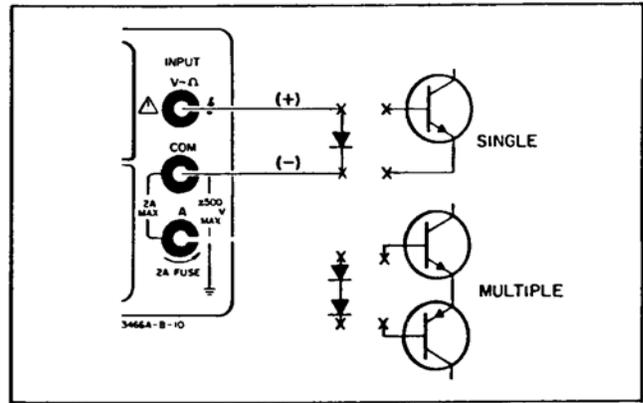

Figure 3-12. Diode Test
- c. Connect test leads across the diode or transistor as shown in Figure 3-12.